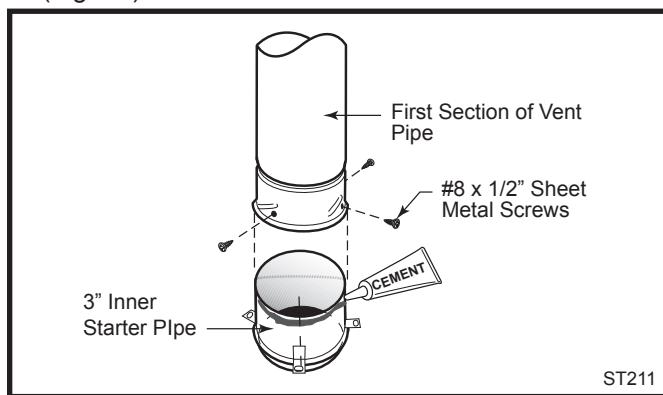

Fig. 18 Connect the inner starter with the next section of inner vent pipe.
- Drill three pilot holes into the Inner Starter and secure the assembly with three sheet metal screws. (Fig. 18)